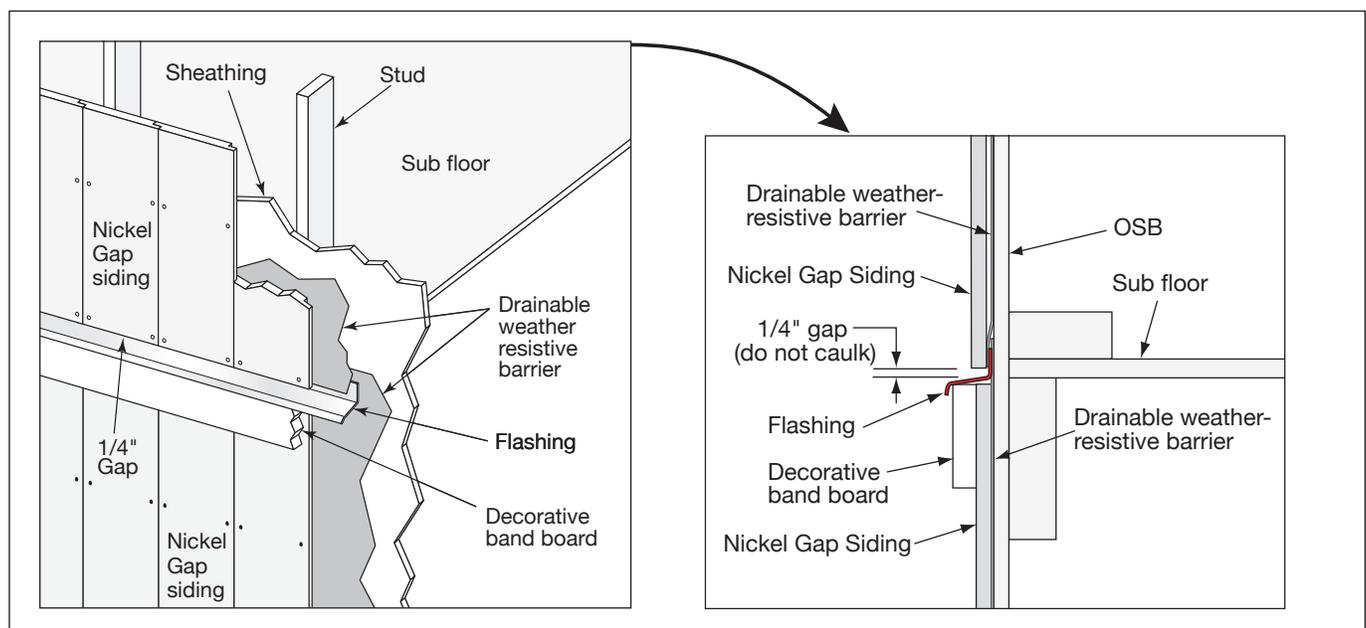

Fig. 24
- 1/4" minimum gap must be maintained above the flashing (**Fig. 24**)